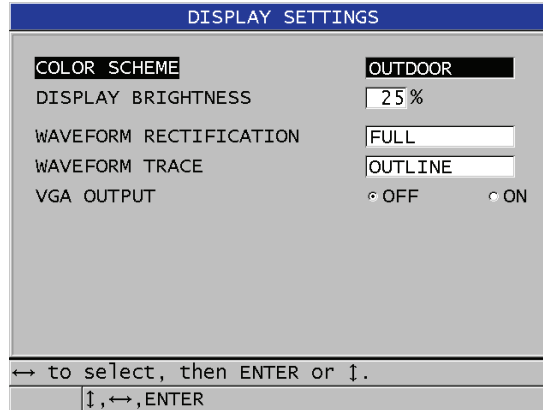

Figure 4-3 The **DISPLAY SETTINGS** screen
2. In the **DISPLAY SETTINGS** screen (see Figure 4-3 on page 46), select the desired parameter and value for the following parameters: